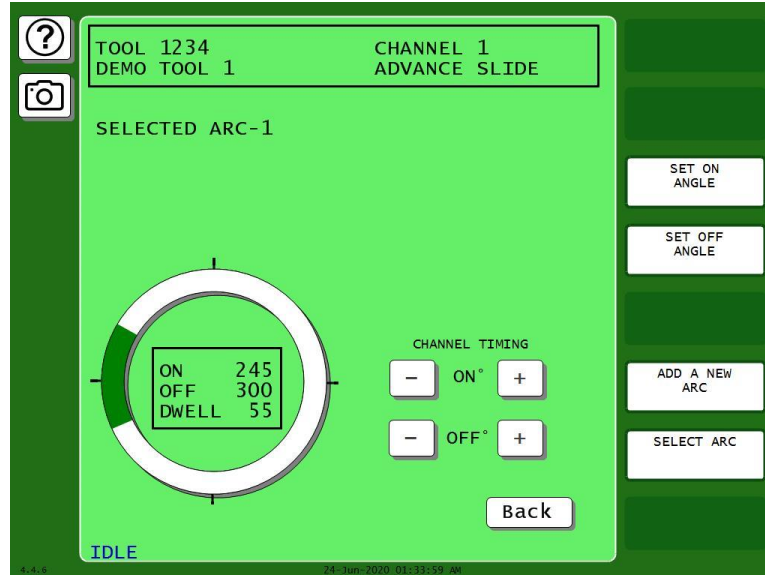

Figure 7-9. Cam Channel On/Off Program Screen
1. Select PROGRAM ON/OFF ANGLES on the Cam Channel Program Type Menu. The Cam Channel On/Off Program screen displays, Figure 7-9.